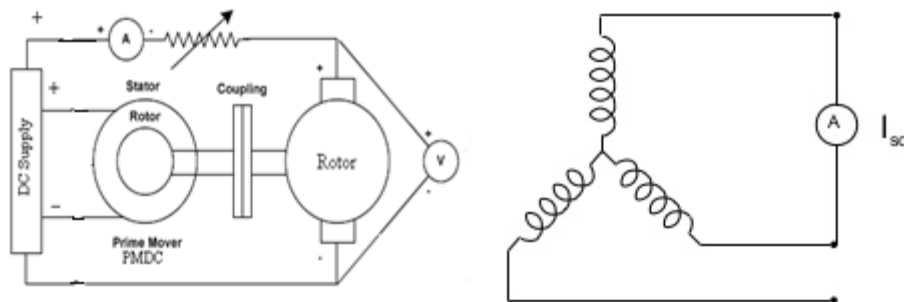

Figure 10.4. Short circuit test
- Make connections as shown in Figure 10.4